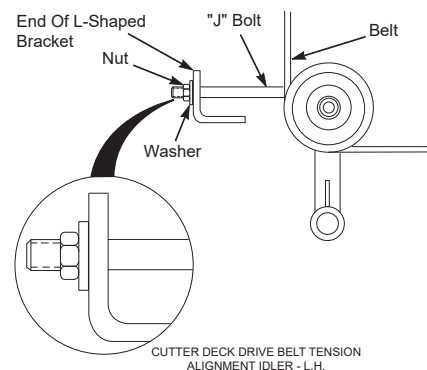

Figure 6-4. Deck Drive Belt Adjustment
2. Adjust the cutter deck drive belt using a belt tension gauge. Adjust the belt so that the belt moves 1/2" with 10 pounds of pressure. Adjust the tension by tightening or loosening the J-bolt. See Figure 6-4.